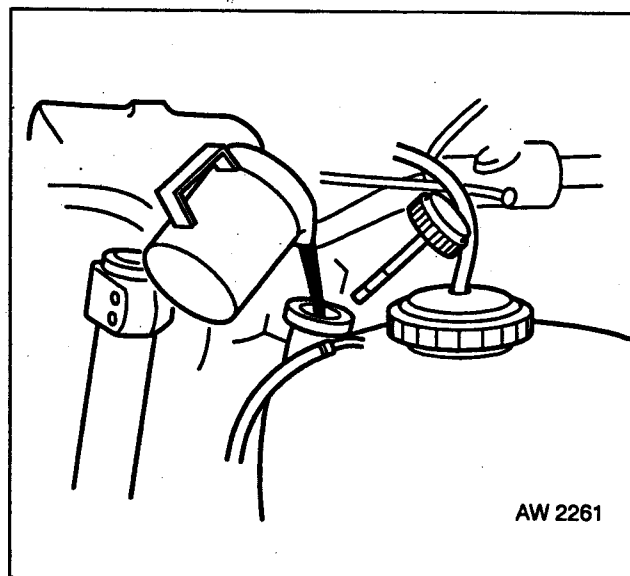

Fig 3.8 Oil Replacement
- b. Refill the motorcycle with oil (Fig 3.8 refers) so that the level lies between the two marks on the dipstick.